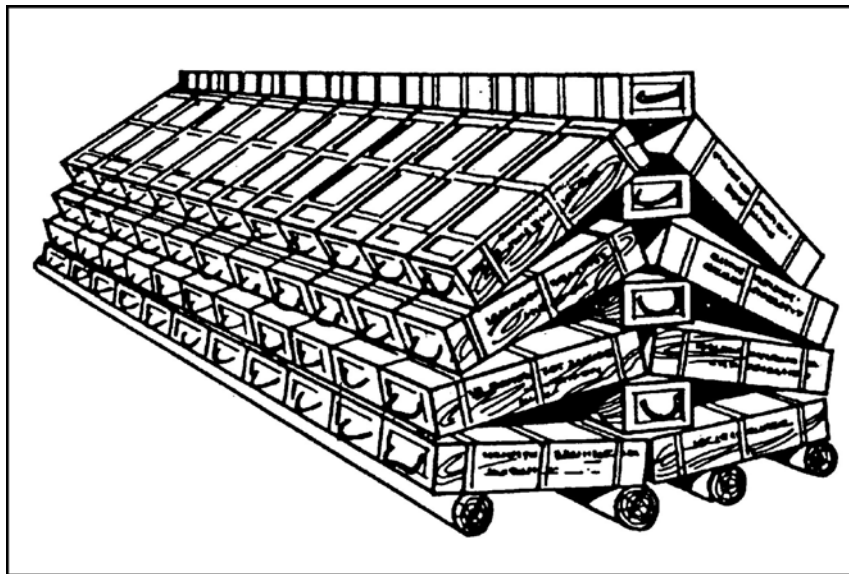

Figure 1. Temporary Field Stacking and Storage
- a. The recommended method for temporary field stacking and storage of boxed HE and illumination ammunition is shown in Figure 1. This method of stacking provides some ventilation that permits open, uncovered storage of ammunition for several months without extensive deterioration of boxes or ammunition.